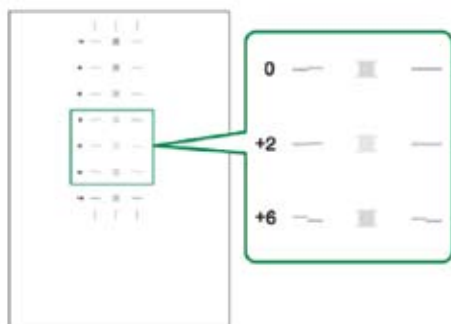

Figure 2
8. To determine which value is optimum, look for the number that appears on the left of the lightest gray square with straight horizontal lines on both sides. (**Figure 1**) When horizontal lines beside the lightest gray square are broken, select the optimal adjustment value by referring to the lines broken in the opposite direction. (**Figure 2**)